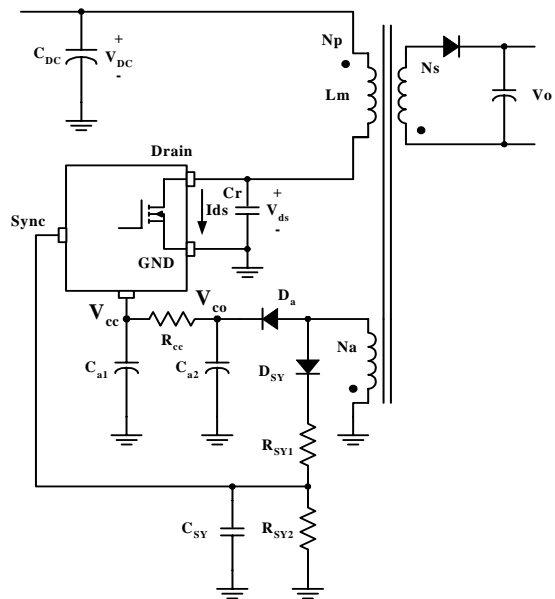
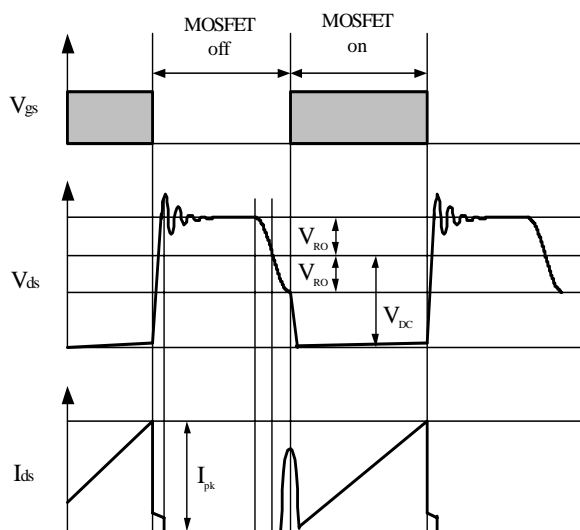
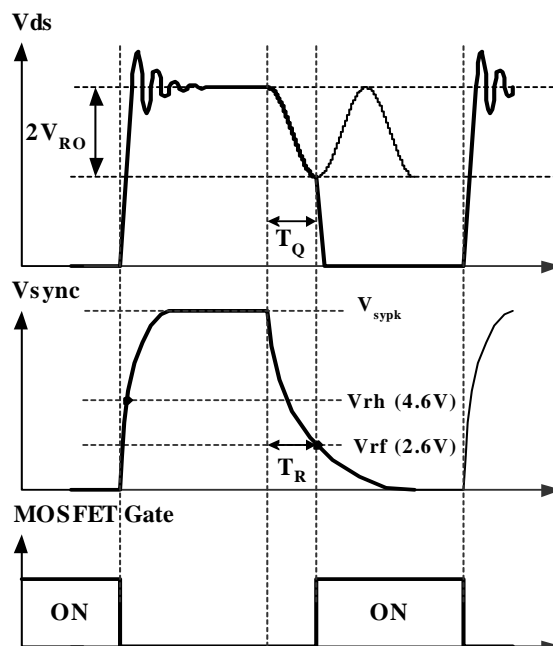

Figure 6. Synchronization circuit
Figure 7. Quasi-resonant operation waveforms
Figure 8. Normal quasi-resonant operation waveforms
2. **Synchronization** : FSCQ1565RT employs quasi-resonant switching technique to minimize the switching noise and loss. In this technique, a capacitor (C_r) is added between the MOSFET drain and source as shown in Figure 6. The basic waveforms of quasi-resonant converter are shown in Figure 7. The external capacitor lowers the rising slope of drain voltage to reduce the EMI caused when the MOSFET turns off. In order to minimize the MOSFET switching loss, the MOSFET should be turned on when the drain voltage reaches its minimum value as shown in Figure 7.
The minimum drain voltage is indirectly detected by monitoring the Vcc winding voltage as shown in Figure 6 and 8. The voltage divider R_{SY1} and R_{SY2} should be chosen so that the peak voltage of sync signal (V_{syPk}) is lower than the OVP voltage (12V) in order to avoid triggering OVP in normal operation. It is typical to set V_{syPk} to be lower than OVP voltage by 3-4 V. In order to detect the optimum time to turn on MOSFET, the sync capacitor (C_{SY}) should be determined so that T_R is the same with T_Q as shown in Figure 8. The T_R and T_Q are given as, respectively